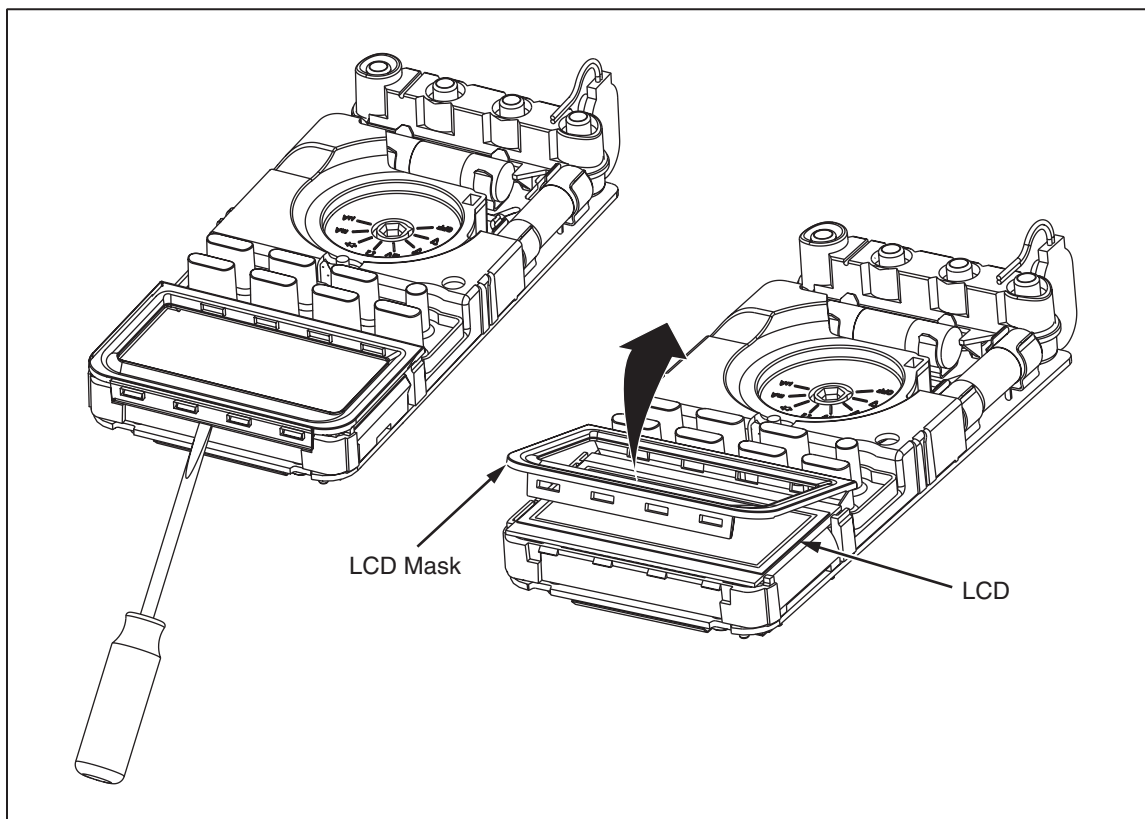

Figure 3. Removing LCD Mask to Access LCD
3. To access the LCD, unsnap the LCD mask using a small flat-blade screwdriver. The LCD may now be removed. Refer to Figure 3.